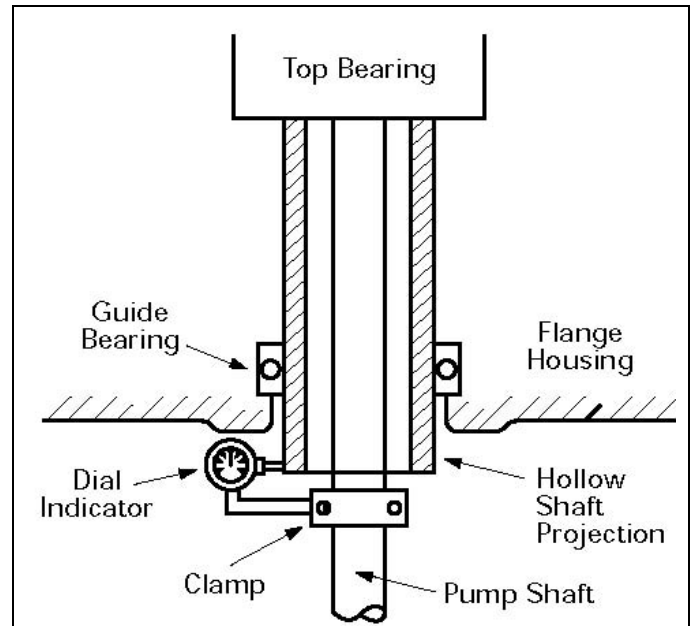

Figure 2
1. Clamp dial indicator to pump shaft, align with base-bolt plane and set dial indicator to zero (Figure 2).